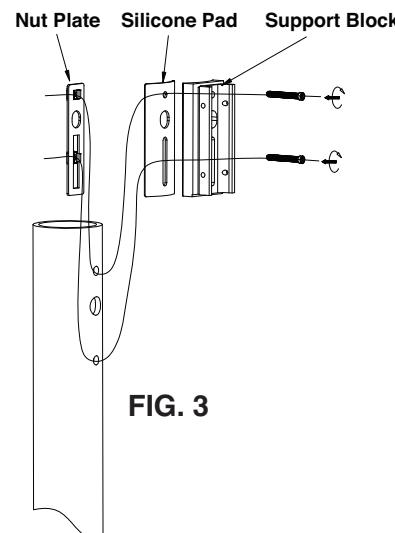

FIG. 3
1. Tighten the nut plate and adapter on the pole (see FIG. 3).